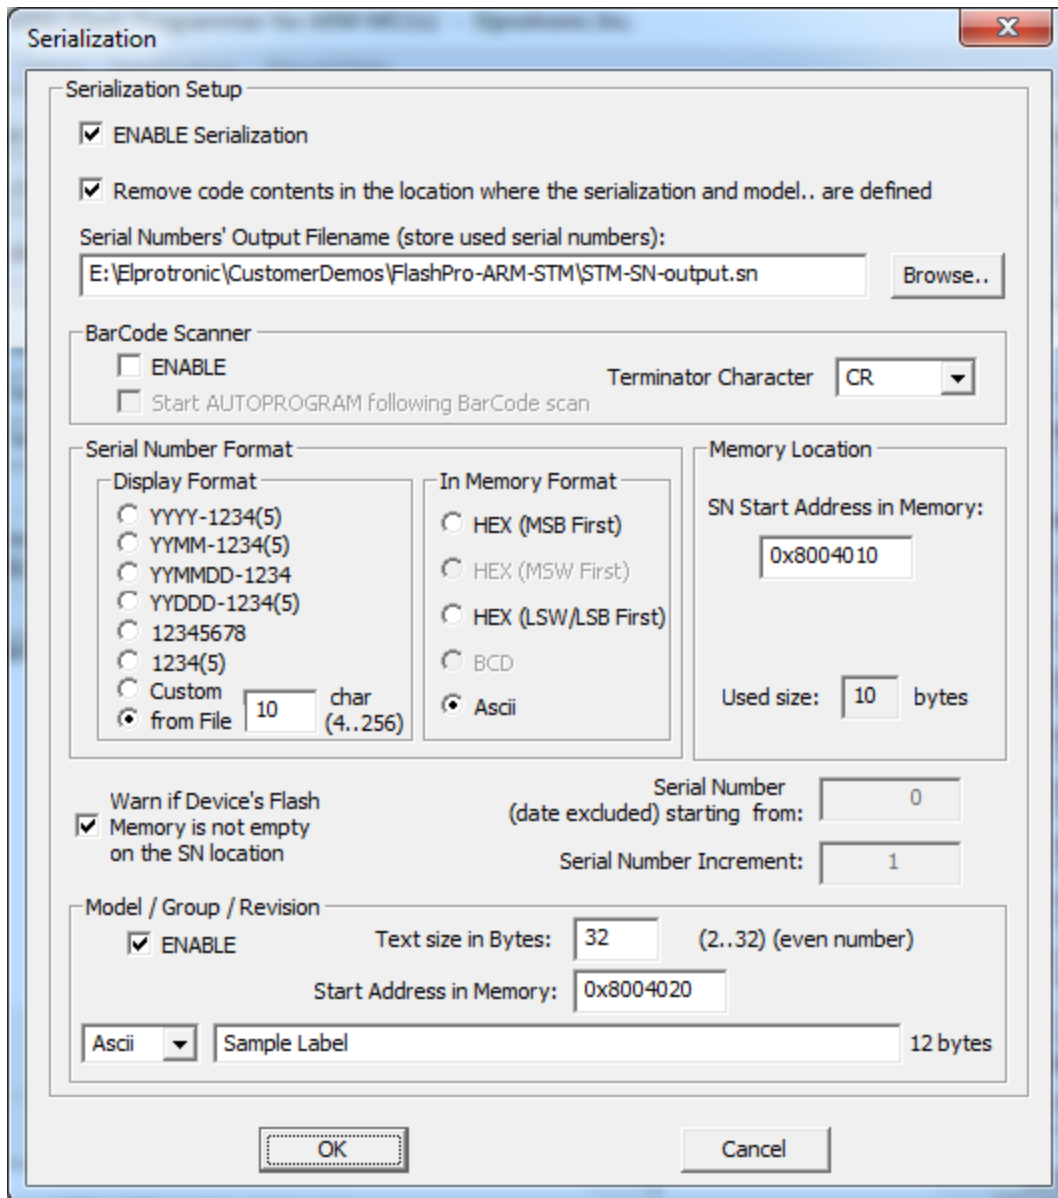

Figure 8.2: Serialization options can be selected here.
The Serialization Dialog screen, shown in Figure 8.2, allows the user to configure how serialization is done. Serialization can be enabled, or disabled, by selecting the check mark in the ENABLE Serialization check-box. When serialization is disabled all edit lines and check boxes are disabled. When serialization is enabled, most fields have to be set to ensure that the result will be as the user expects. The necessary fields include:
*Figure 8.3: This window will appear when there is a conflict between memory allocated to code and the SN. To avoid this pop-up, select the option to "Remove code contents in the location where the serialization and model are defined" in Figure 8.2.*